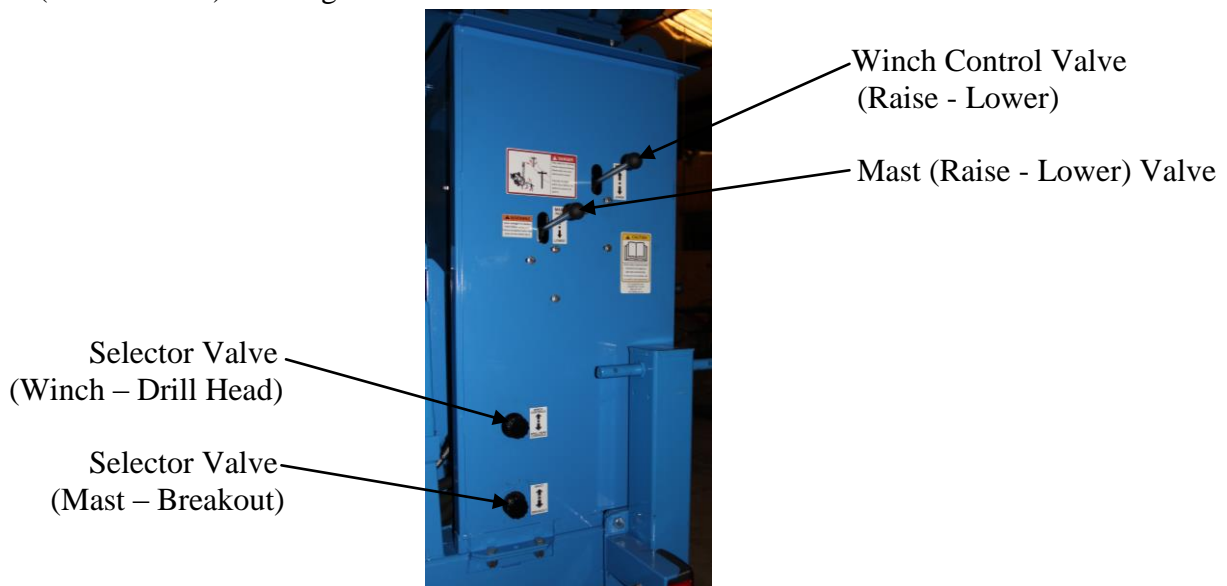

Figure 6
The hydraulic system has two circuits, a low (3 gpm) flow and high (15 gpm) flow circuit. Each of these two circuits supplies one (1) of two (2) different circuits depending on the position of the two (2) selector valves. The selector valve on the low flow circuit will direct flow to either mast (raise – lower) valve or breakout (unlock – lock) valve. The selector valve on the high flow circuit will direct flow to either winch control valve or drill head control valves. Both of these selector valves are located on the side of the control panel. The side of the control panel, also, contains controls for mast (raise – lower) and winch (raise – lower). See figure 6.